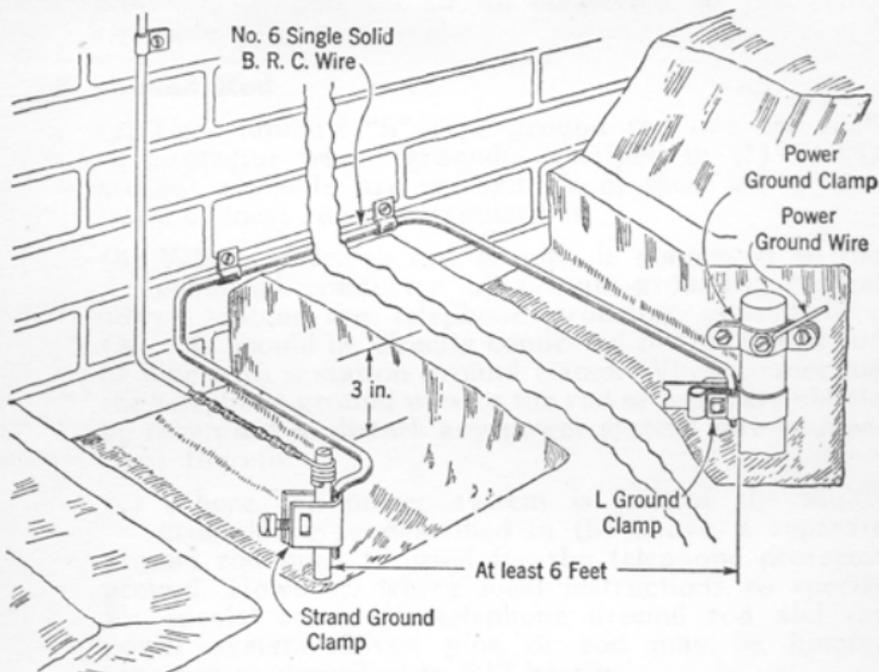

Fig. 4—Bonding Telephone and Power Service Ground Rods
5.12 In special cases where the telephone ground rod is to be bonded to a driven pipe or rod used as a ground for the power service, use a No. 6 BRC single solid R wire to bond the two rods together as shown in Fig. 4. The strand ground clamp or approved equivalent may be used at the telephone ground rod and an L ground clamp may be used at the power ground rod.